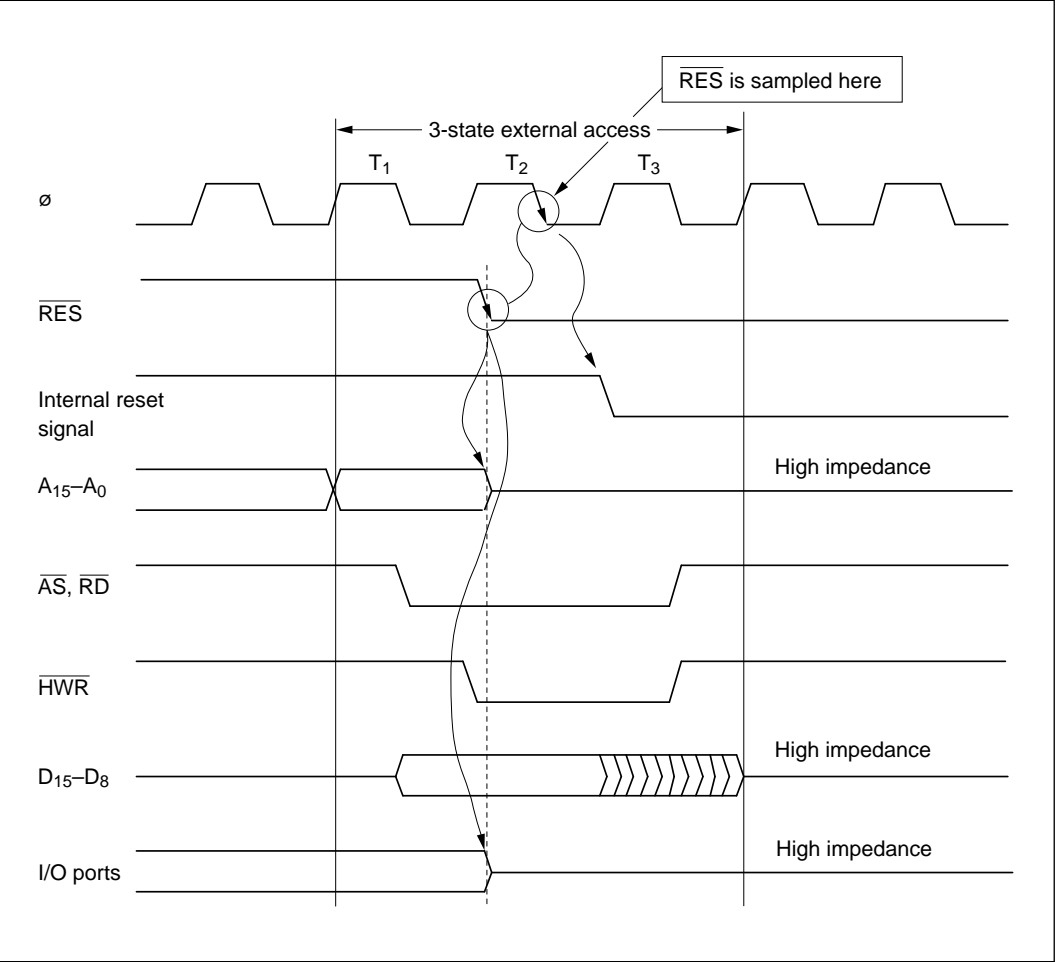

Figure G-2 Reset during Three-State Access (Mode 2)
(2) Mode 2: Figure G-2 is a timing diagram for the case in which $\overline{\text{RES}}$ goes low during three-state access in mode 2. As soon as $\overline{\text{RES}}$ goes low, all ports are initialized to the input state. $\overline{\text{AS}}$, $\overline{\text{RD}}$, $\overline{\text{LWR}}$, and $\overline{\text{HWR}}$ go high, and D_{15} to D_8 go to the high-impedance state. A_{15} to A_0 are initialized as soon as $\overline{\text{RES}}$ goes low, and become input ports.